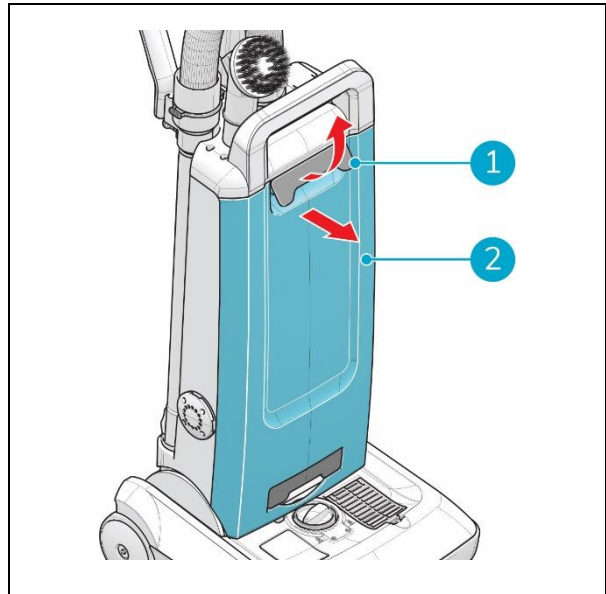

Figure 21
1. Pull the front cover release handle (Figure 21, pos 1) and take out the front cover (Figure 21, pos 2).